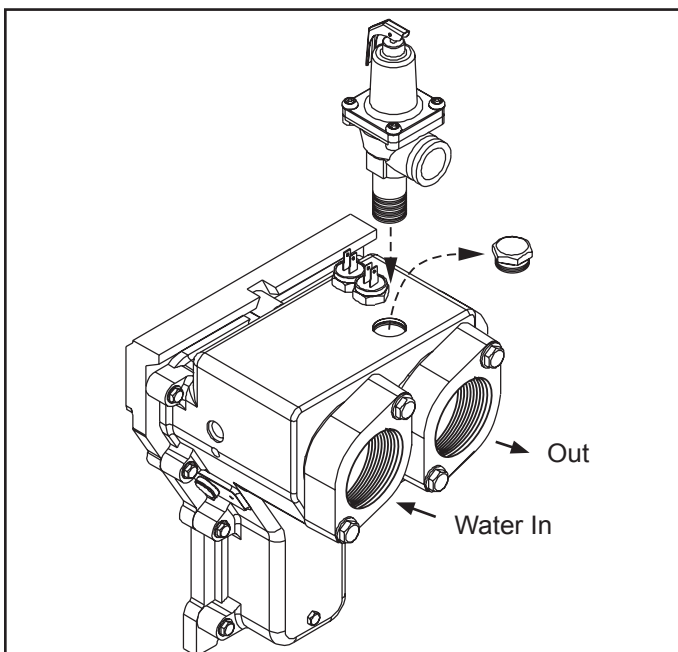

Figure 22. Pressure relief valve installation.
1. Remove the 3/4" brass plug from the top of the inlet/outlet header, see Figure 22.